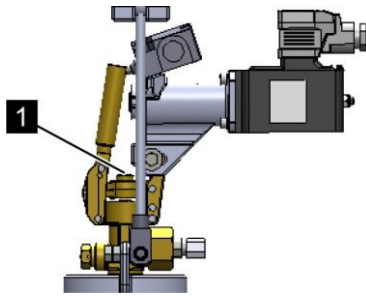

Fig. 136: Valve seal seat
4. ➤ Check whether the tightening torque for the pre-tension of the valve seat seal (Fig. 136/1) is 12 – 13 Nm (8.85 to 9.59 lb·ft) and correct if necessary.